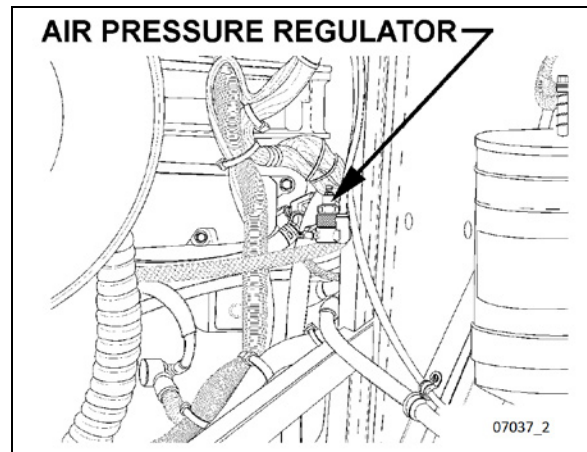

FIGURE 14: AIR PRESSURE REGULATOR (TYPICAL)
- 24. Adjust the retarder pressure to 80 ± 3 psi with the air pressure regulator. For more information refer to Section 12, "BRAKE AND AIR SYSTEM", under heading "AIR PRESSURE REGULATOR". The air pressure regulator is located at back of engine compartment, on R.H. side (Figure 14) or in the R.H. side rear service compartment.